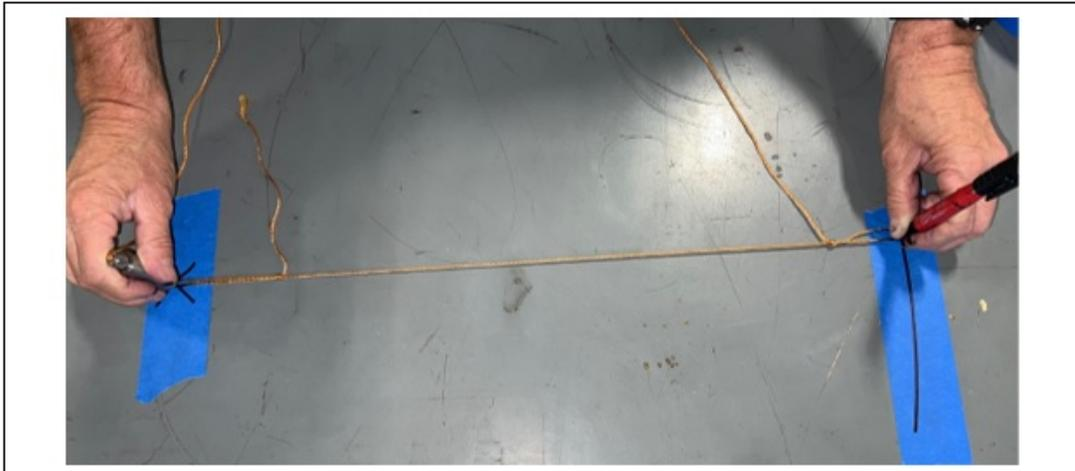

Figure 13
16. Perform Step 15 again, but with the marker pen uncapped, to create about a 3-inch arc on the masking tape at **Point (C)**. (See Figure 13.)